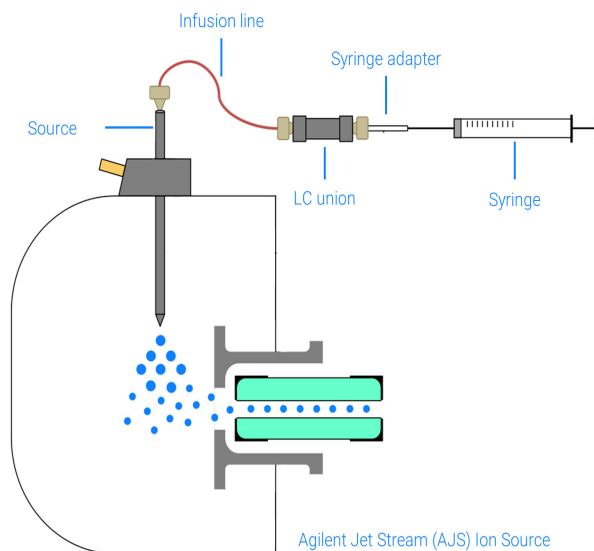

Figure 13. Diagram of direct infusion setup.
- 2 Assemble the infusion line as shown in **Figure 13**.